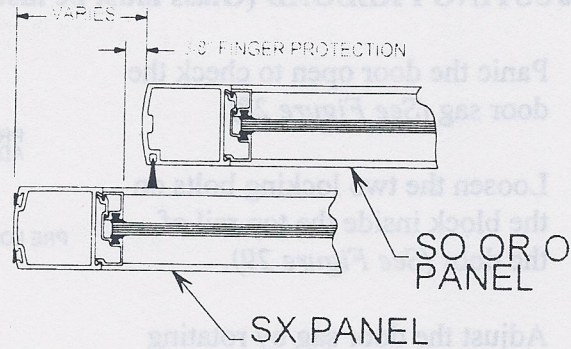

Figure 26
7. Adjust the door stop so there is a 3/8 inch gap from the face of the glass stop to the face of the sidelight or swing panel (See Figure 26). In some cases the door stop will be mounted on the jamb tube.